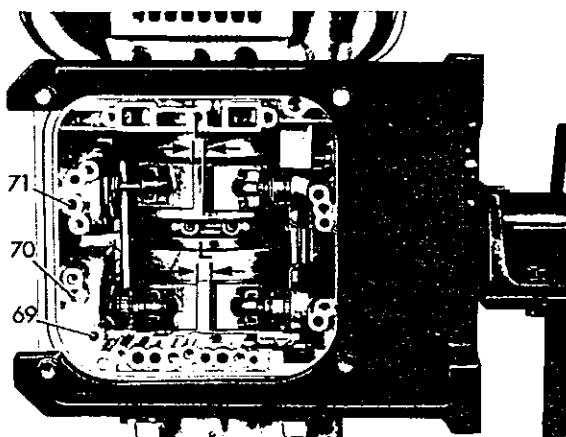

Fig. 53
Brake band piston B 1 is held in the released position by the compression spring so that the end of brake band 1 can be directly marked on the brake band drum. Then move brake band piston B 1 to the applied position by compressed air via the apply pressure bore B 1 (71) and also mark the end of brake band 1 on the brake band drum **Fig. 53**